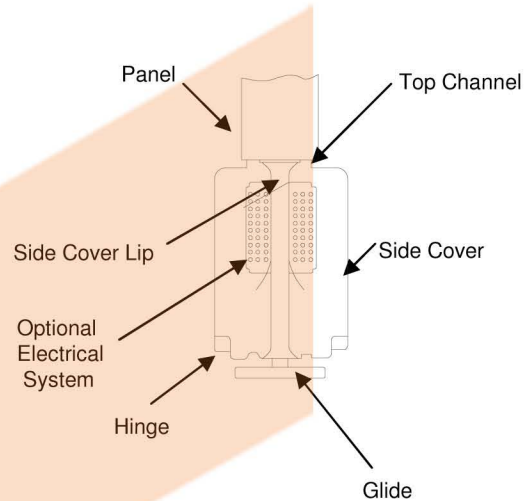

FIGURE 1
- A.** Starting at one end press down on the top of the side cover and push the lip under the top channel. See Figure 1.